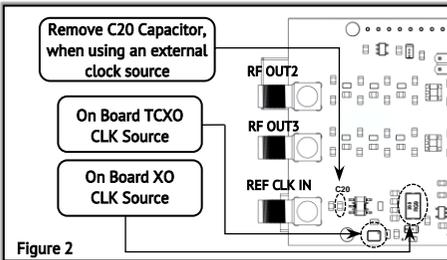

Figure 2
**make sure that capacitor C20 (100nF 0805) is removed** (Figure 2). This will **disconnect** on board TCXO **output** from **DDS Clk input**.
When using an **external clock source**, the signal is fed to the **SMA** connector labeled "**REF CLK IN**", when using it, **make sure that capacitor C20 is removed** (Figure 2).